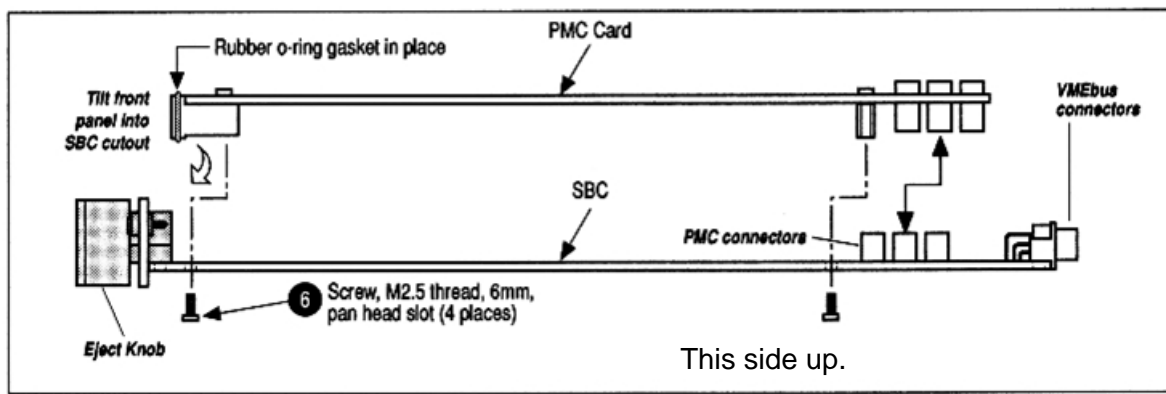

Figure 1. PMC Board Installation Attaching Screws
1. With the solder side of the SBC facing up, remove the four PMC securing screws (see Figure 1). Do not remove the red tipped screws on the component side of the SBC.